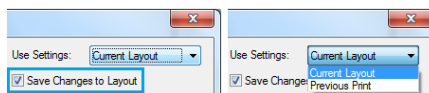

Fig. 318 – selecting a print layout – the current or the previous one
- in here it can be also determined, which settings should be displayed – of the current or of the previous layout (Fig. 318);